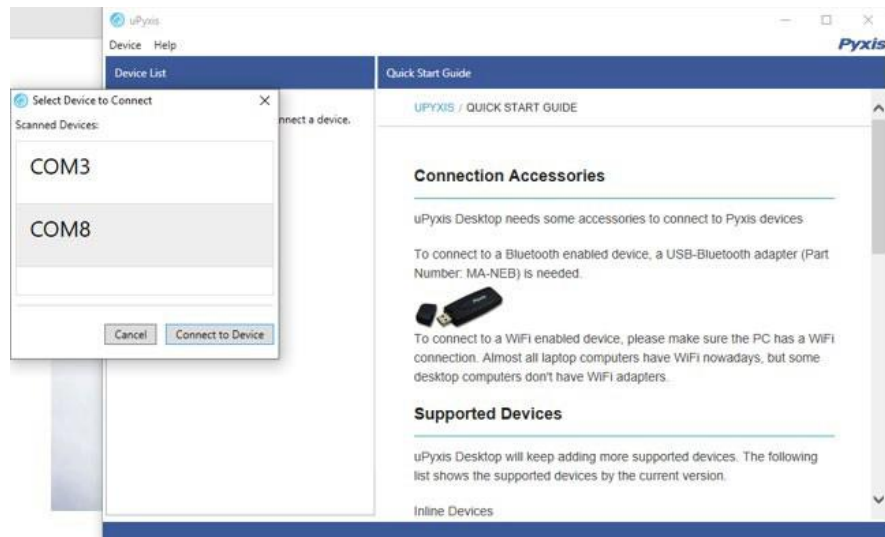

Figure 16 - Select a Comm port
- 7) Select the Comm Port to make a connection. Normally only one Comm port is identified by uPyxis (*Figure 16*). If more than one Comm port listed in the selection dropdown, you may try to select each one to see if a connection can be made. Alternatively, you may use the Windows Device Manager to identify the Comm Port that the Pyxis USB adapter is using.